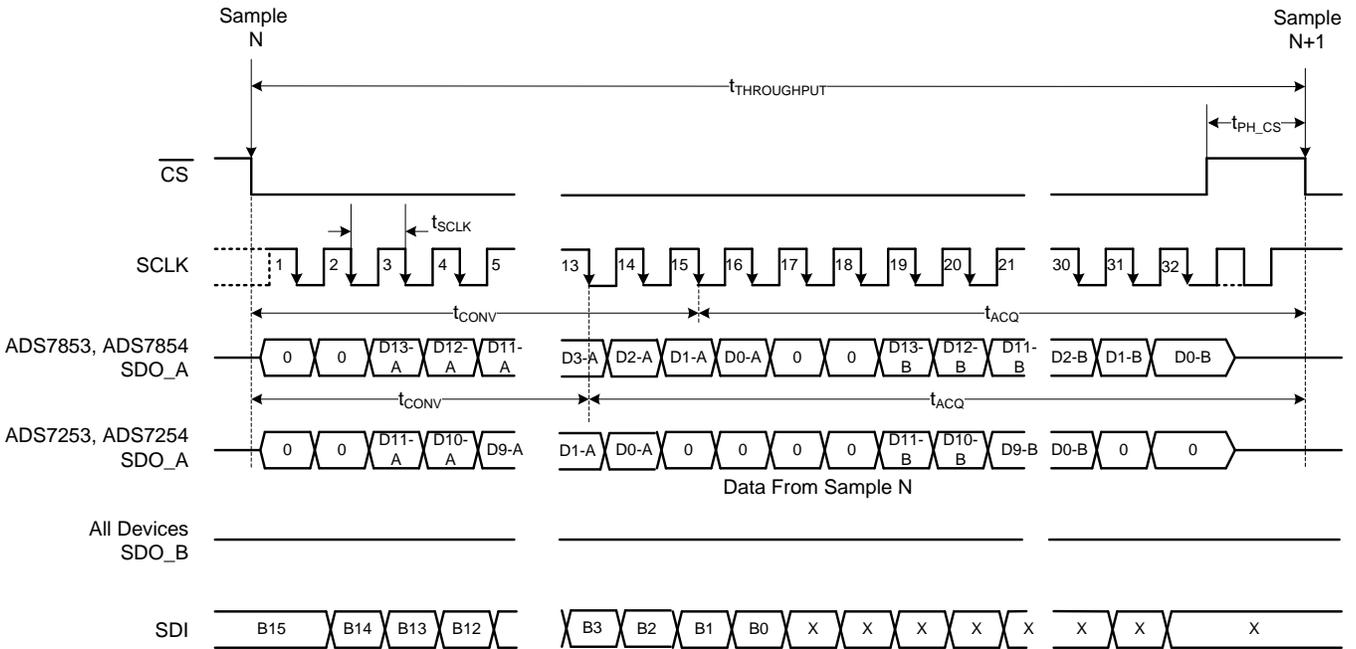

Figure 93. 16-CLK, Single-SDO Mode Timing Diagram
For the ADS7854 and ADS7254, this mode can be selected by writing CFR.B11 = 1 and CFR.B10 = 1. The SDO\_A pin is used to output the conversion results of both ADCs (ADC\_A and ADC\_B). SDO\_B remains in 3-state and can be treated as a no connect (NC) pin. Figure 93 shows a detailed timing diagram for this mode.